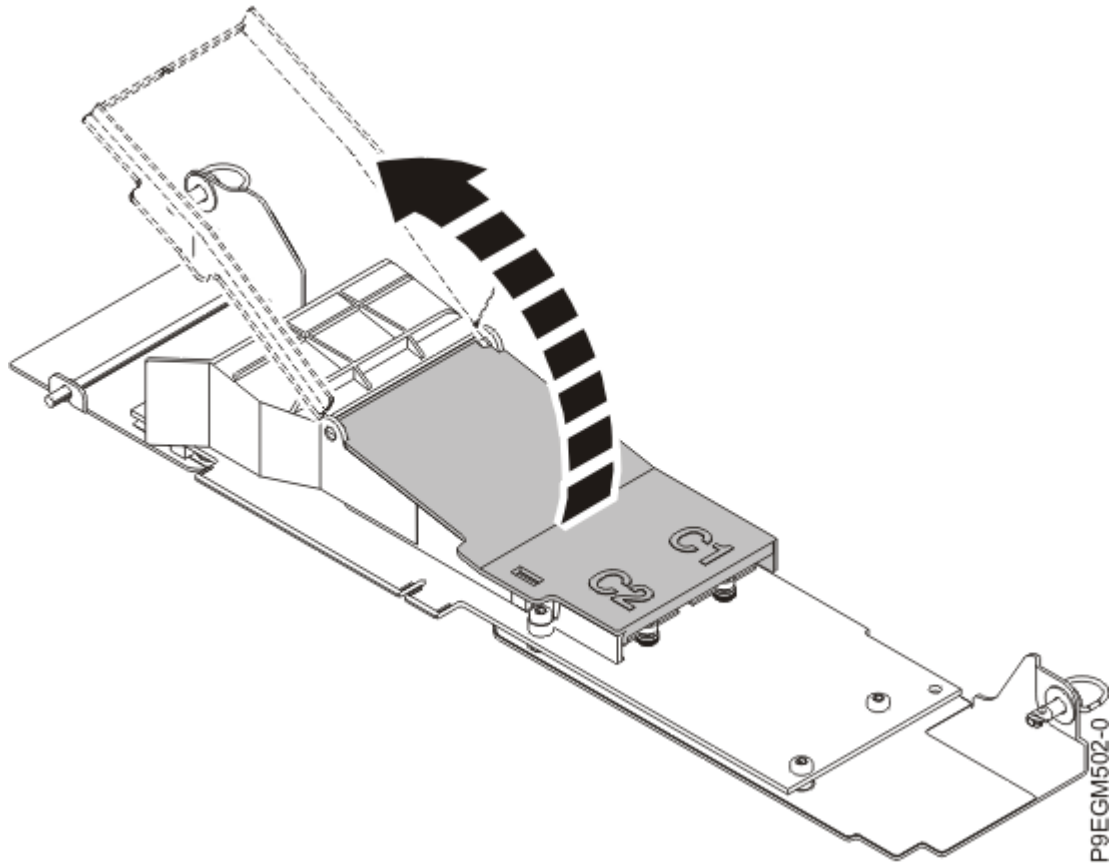

Figure 29. Lifting the NVMe M.2 carrier card cover
- a) Lift the black cover on the NVMe M.2 carrier card by pulling up near the pull tab as shown in Figure 29 on page 35.